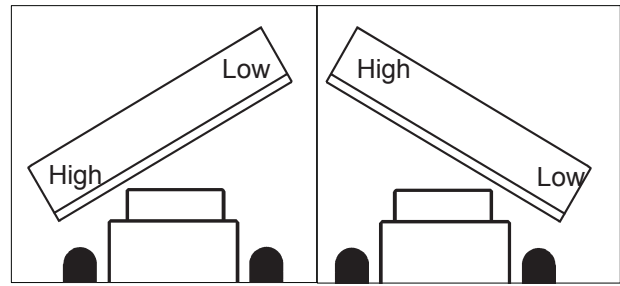
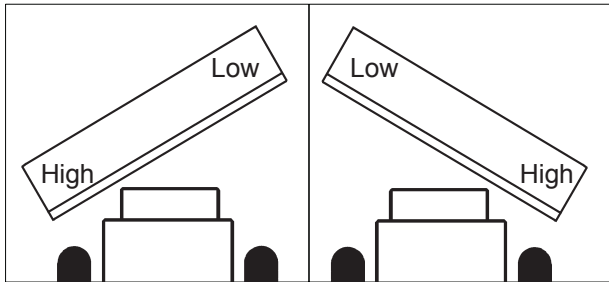
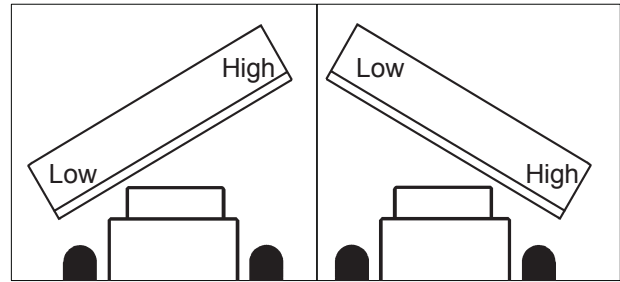

figure 5
figure 4
figure 6
- figure 3, turn leveling screws out. (figure 5, A)
- figure 4, turn leveling screws in. (figure 5, A)
- figure 5, turn the adjustment screw in. (figure 5, B)
- figure 6, turn the adjustment screw out. (figure 5, B)
- figure 3, turn leveling screws out. (figure 6, A)
- figure 4, turn leveling screws in. (figure 6, A)
- figure 5, loosen hardware that attaches the swing assembly to the brush head assembly; lower the left-hand side of the brush head until both sides are an equal distance above the ground. Tighten the hardware.
- figure 6, loosen hardware that attaches the swing assembly to the brush head assembly; lower the right-hand side of the brush head until both sides are an equal distance above the ground. Tighten the hardware.
- figure 4, retract tilt cylinders.
- figure 4, shorten the hitch topline.
- figure 5, lower the adjustable 3-Point hitch arm.
- figure 6, raise the adjustable 3- Point hitch arm.